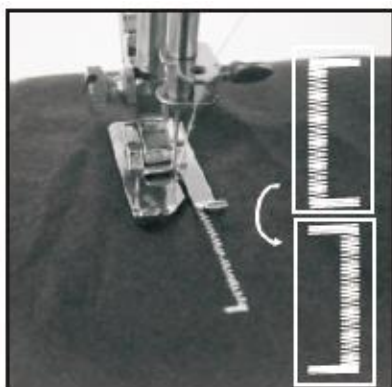

Fig.18
- 5) Raise the presser foot, rotating the cloth for 180° (Fig.18).